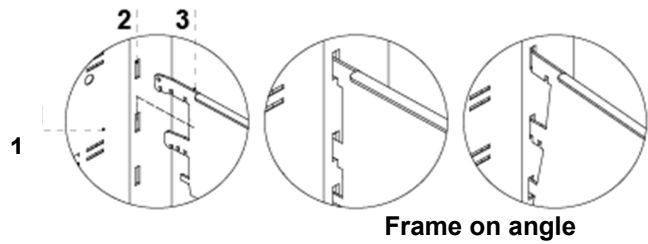

Figure 7 Rack shelf set
2. Place shelves and/or baskets on hooks. (Figure 7 and/or Figure 10)